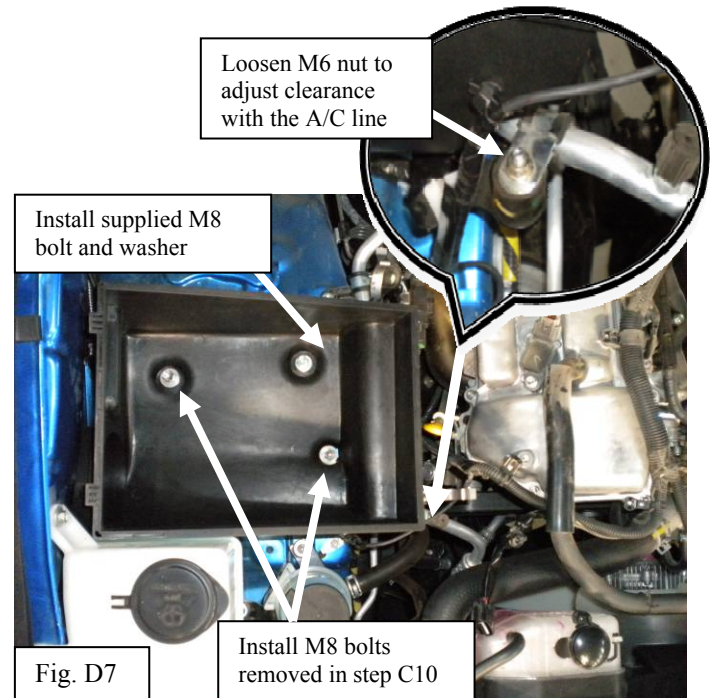

Fig. D7
- ii. Align TRD lower air box so that factory rubber grommets are directly over the mounting holes in the inner fender well. (Fig. D7)
- iii. Secure the lower air box using the two M8 bolts removed in step C10, and the supplied M8 bolt and washer. (Fig. D7) If necessary, use an M8 X 1.25 tap to clean paint / undercoat from the threaded holes.
-  iv. If additional clearance is needed between the A/C line and the lower air box, loosen the M6 nut on the clamp, and slide the A/C line away from the air box until there is sufficient clearance. (Inset – Fig. D7)